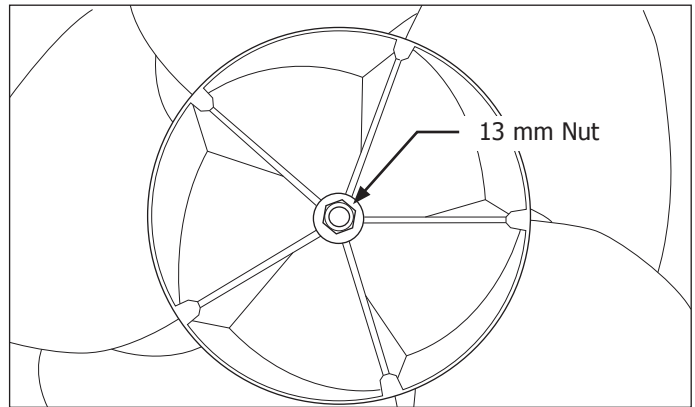

Figure 4-26.
4. Use a 13mm socket or wrench and remove the left hand thread nut securing the condenser fan blade to the motor shaft. (See Figure 4-26)